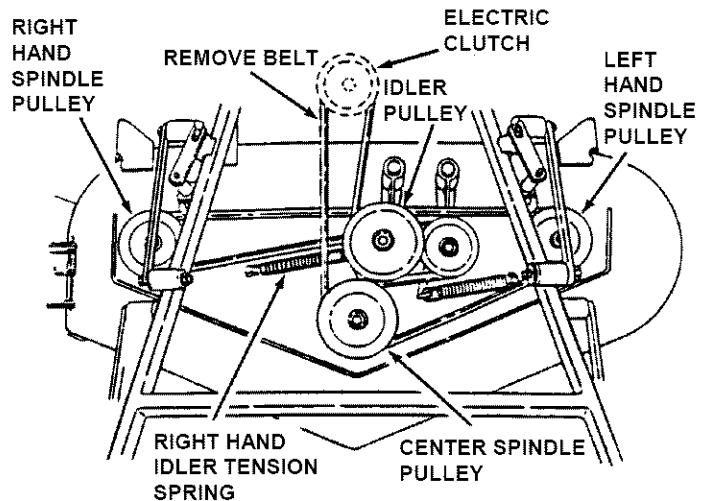

FIGURE 4.7
3. Remove right hand Idler Tension Spring and swing Idler away from belt. See Figure 4.7.
2. Route new belt around right and left hand Spindle Pulleys as shown in Figure 4.7.
4. Remove old belt from center and right hand Spindle Pulleys. Refer to Figure 4.7.